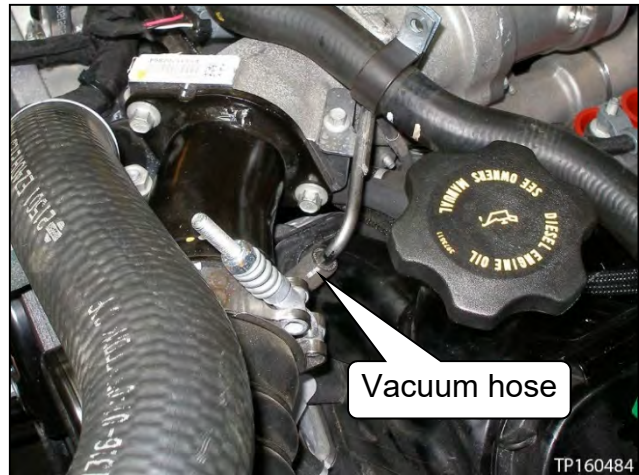

Figure 45
31. Disconnect the vacuum hose (see Figure 45).